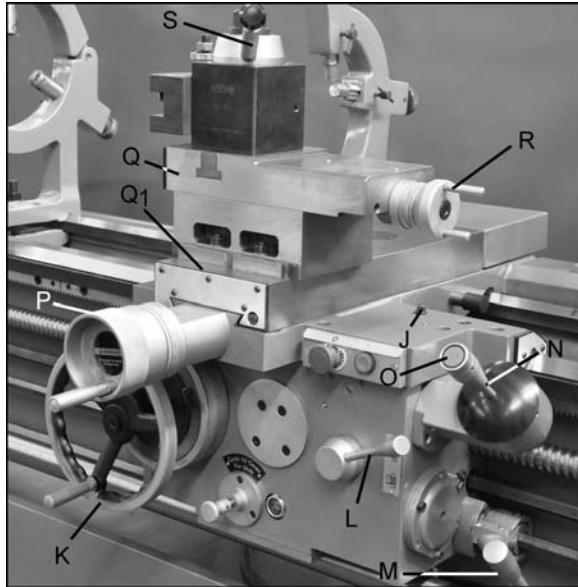

Figure 24 – Carriage controls and settings
5. **Carriage Lock** (J, Figure 24): Located on top right of carriage. Turn clockwise to lock, counterclockwise to unlock.
6. **Carriage Handwheel** (K, Figure 24): Located on the apron. Rotate handwheel clockwise to move carriage assembly toward tailstock (right). Rotate the wheel counterclockwise to move carriage assembly toward headstock (left). A scale is mounted to the ring, graduated in 0.05 inch increments, and can be calibrated by loosening the thumb screw lock and rotating the ring as needed. Always re-tighten ring before using the feed.
7. **Half Nut Lever** (L, Figure 24): Located on front of apron assembly. Engages the leadscrew for threading operations.
9. **Spindle Direction Control Lever** (M, Figure 24). Move lever to the right so that its tab clears the notch, then down for forward spindle rotation, or up for reverse spindle rotation. *Allow spindle to come to a stop before changing directions.*
10. **Feed Direction Lever** (N, Figure 24): Left and right moves the carriage in the corresponding directions (longitudinal feed); up and down moves the cross slide (cross feed).
11. **Rapid Traverse Button** (O, Figure 24). Push for rapid movement in the direction set by the feed direction lever. Rapid longitudinal movement disengages the carriage handwheel. **However, the cross slide handwheel should be disengaged (pull it out) before using rapid feed.**
12. **Cross Slide Handwheel** (P, Figure 24): Located above apron assembly. Clockwise rotation moves cross slide toward rear of machine. The accompanying scale is graduated in 0.002 inch increments. Before using rapid feed, disengage this handle by pulling it outward.
13. **Compound Rest** (Q, Figure 24): Located on top of the cross slide and can be rotated 360° by loosening four nuts (two in front, two in back). There are calibrations in degrees (Q1, Figure 24) to assist in placement of the compound rest to the desired angle.
14. **Compound Rest Handle** (R, Figure 24): Rotate clockwise or counterclockwise to position. The accompanying scale on the collar is graduated in 0.001 inch increments.
15. **Tool Post Clamping Lever** (S, Figure 24): Rotate counterclockwise to loosen and clockwise to tighten. Always use minimum of two clamping screws to secure a cutting tool.